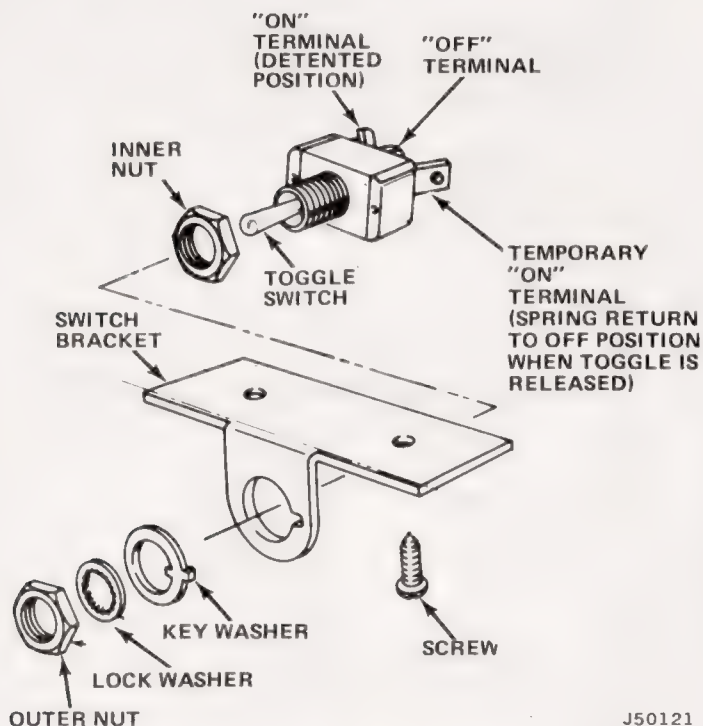

Fig. 4-5 Toggle Switch and Bracket
(2) Secure toggle switch bracket to instrument panel (fig. 4-5).